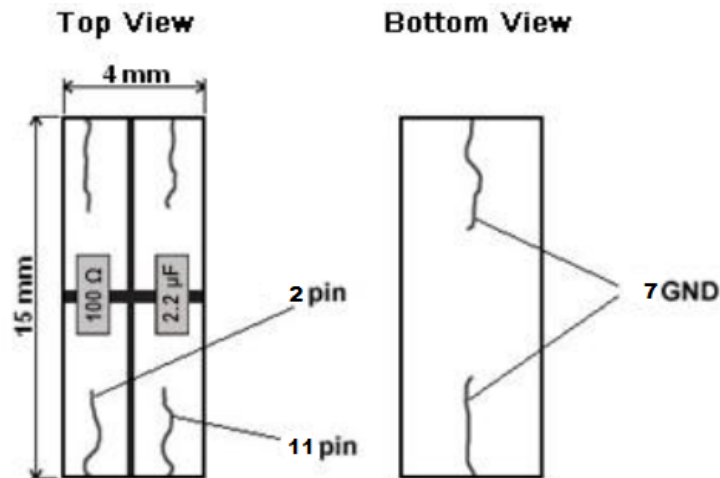

Fig. 5 Printed circuit board
Planar resistor and capacitor are soldered on the prepared textolite printed circuit board (4 x 15 mm). The external view of the printed circuit board is shown in the Fig.5.
2. Mark the board in accordance with the Fig.5. Finally there must be 4 insulated metallized areas. Bottom side of the board must be fully metallized.
3. Solder planar resistor and capacitor in accordance with the Fig.5.